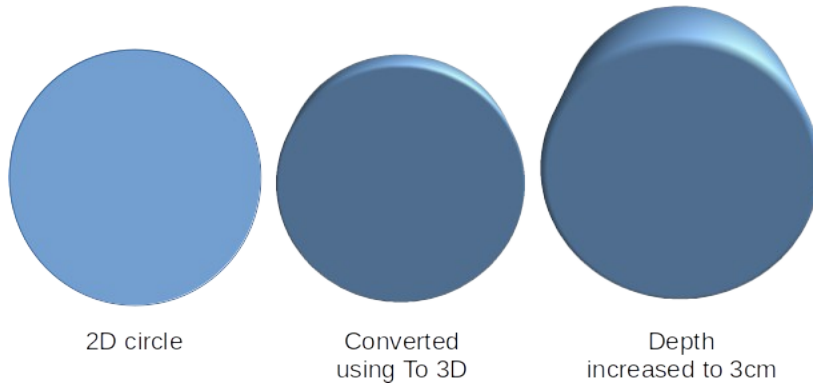

Figure 15: Example of increasing depth
- *Depth* – enter the extrusion depth for the selected 2D object that has been converted to 3D using **To 3D**. Figure 15 shows an example of a 2D circle converted to a 3D cylinder with the extrusion depth increased to 3 cm.